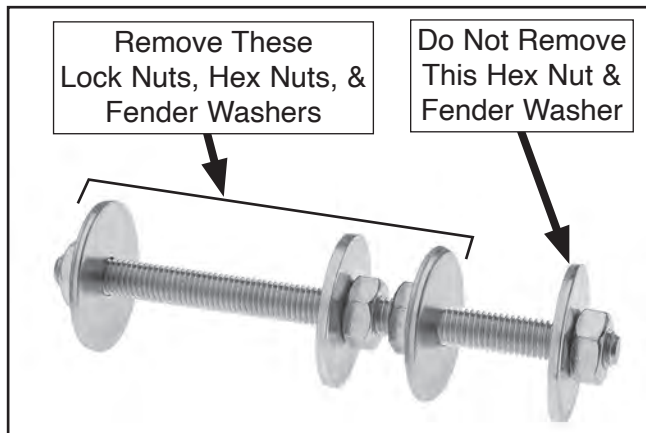

Figure 20. Coil support stud.
4. Remove (3) pre-installed M10-1.5 hex nuts and (3) 10mm fender washers from coil support stud (see **Figure 20**).